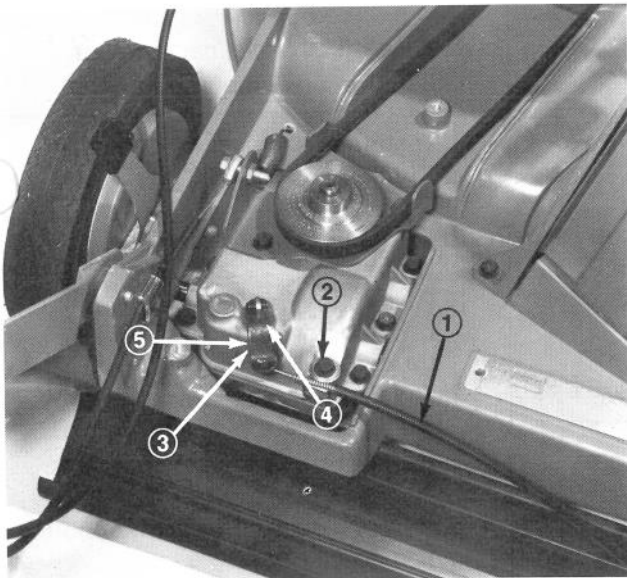

Figure 38
4. Loosen the capscrew securing the ground speed control cable (Fig. 38, item 1).
tion of cable clamping cap screw as far as possible, hold in position and tighten cap screw (Fig. 38).